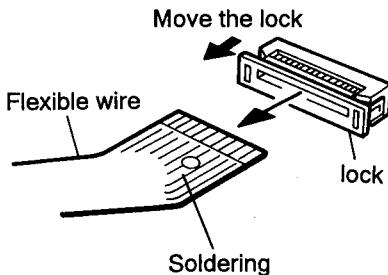

Fig. 2-11
6. Disconnect the flexible wire connected to the connector on the CD mechanism control P. C. board (See Fig. 2-11).
- CAUTION:** Whenever the flexible wire is disconnected, be sure to remove the soldering in advance as shown in Fig. 2-11. Otherwise, the CD mechanism assembly can possibly be damaged.